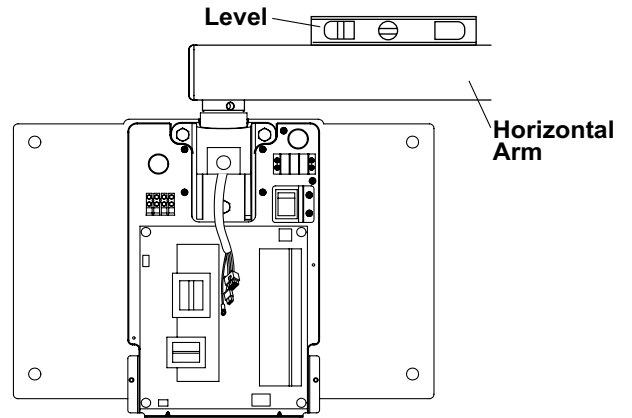

Fig.3-7 Level confirmation
- Place a level on the horizontal arm and confirm that the arm is level throughout its left and right swing positions. (Fig.3-7)